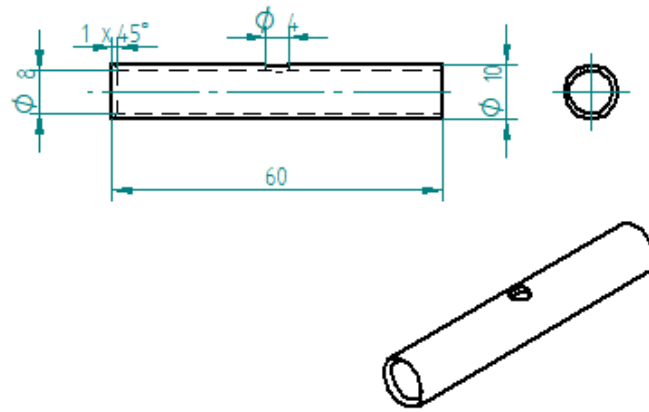

Figure C.2: motor cable tube
1. Make an aluminium **tube** with the following dimensions: $10/8 \times 60$ mm (See Figure C.2, page 178).